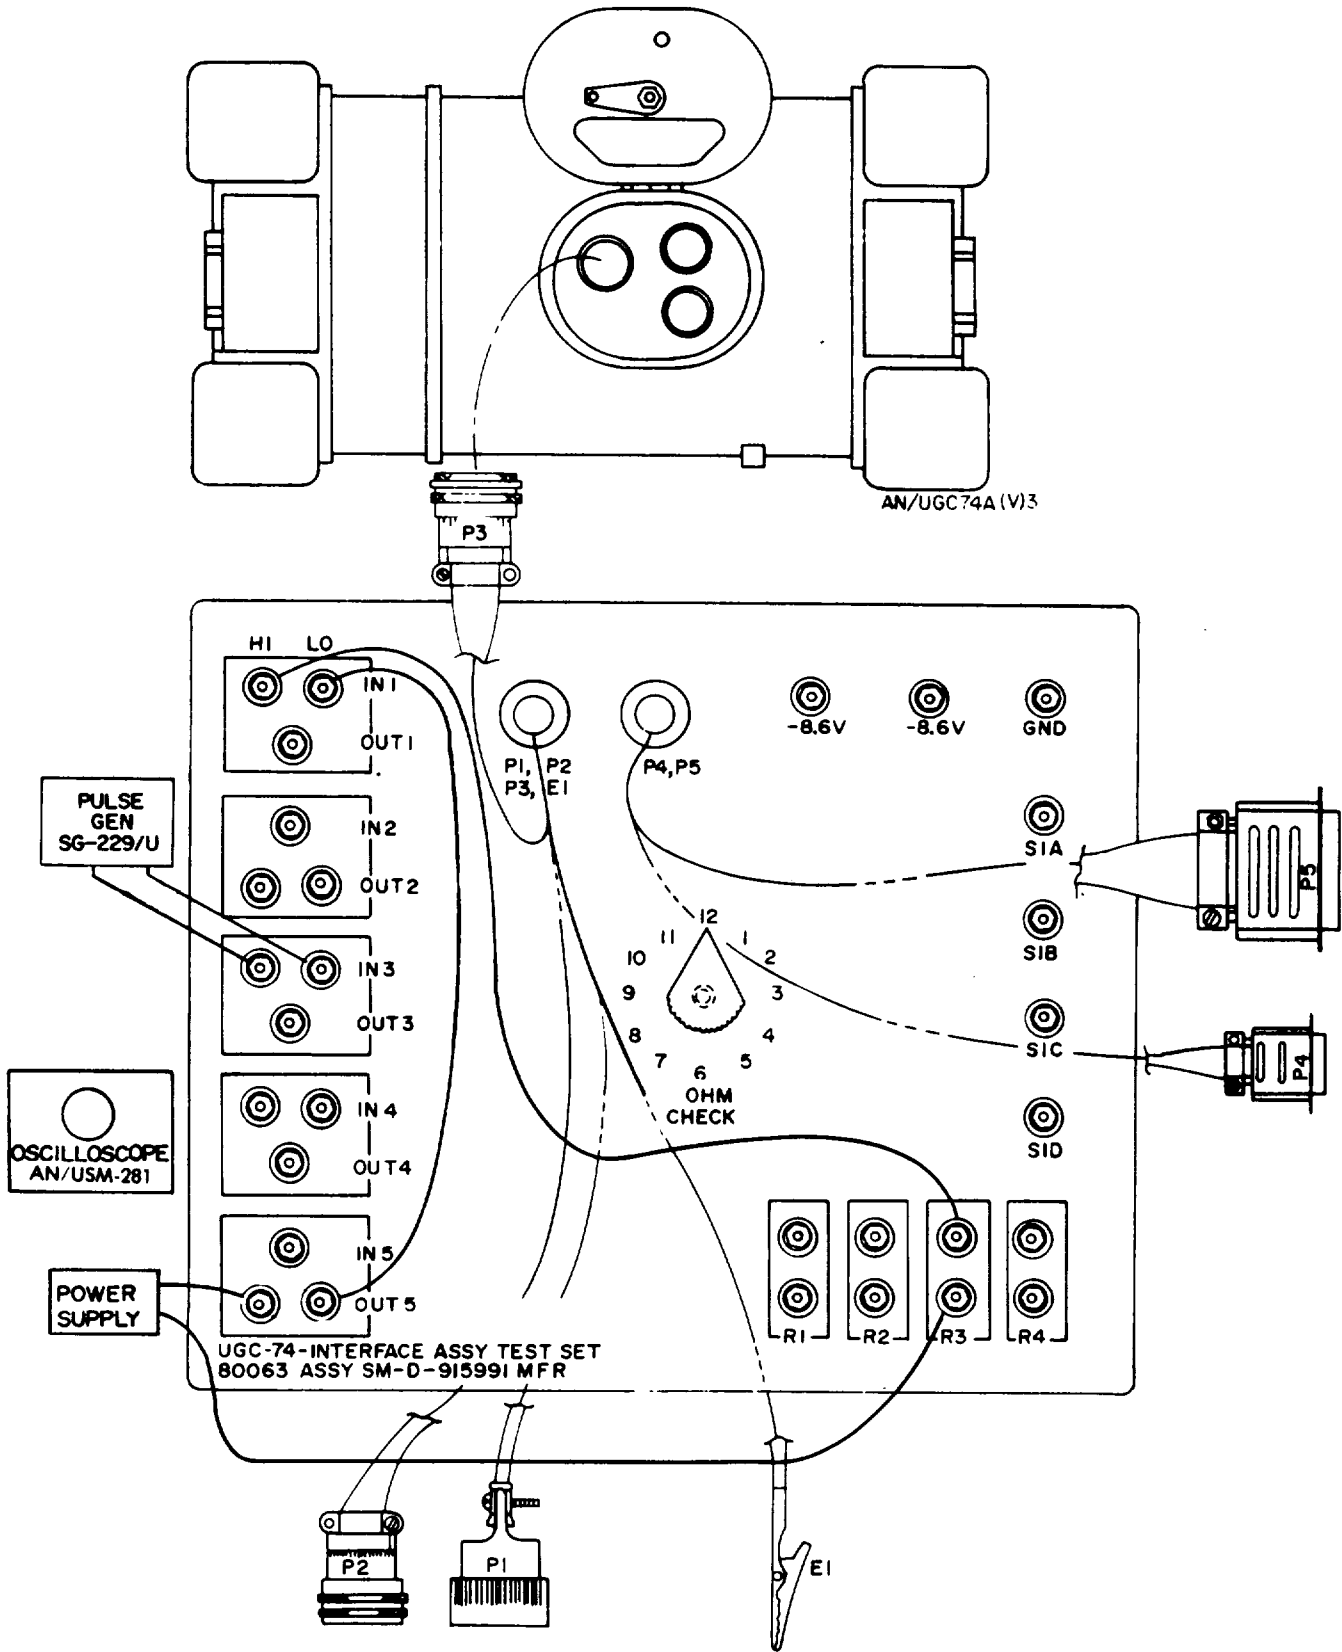

Figure 6-27. EQUIPMENT SETUP FOR 26 VOLT SUPPLY TEST.
- Set up function generator for 0 to +6 V square wave at 100 Hz (external/clock) and connect to IN3(HI) and IN3(LO). Connect OUT5 to IN1(HI) and (LO).
- Using the interface assembly test fixture, connect a 26V supply through R3 as shown in figure 6-27.